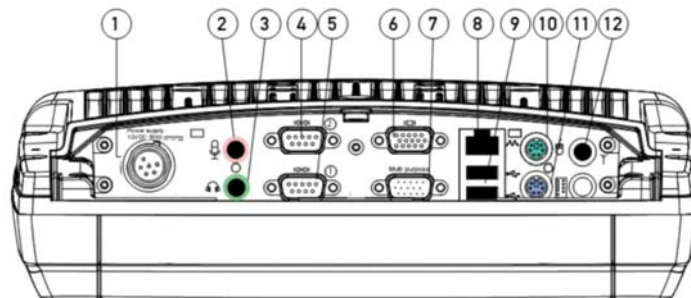

Figure 7: Ports
- COM ports; see Fig 7, pos. 4 or 5, or
- USB ports; see Fig 7, pos. 9,
- 1 Connect the barcode reader to the correct COM port; see Figure 7 position 4 or 5.